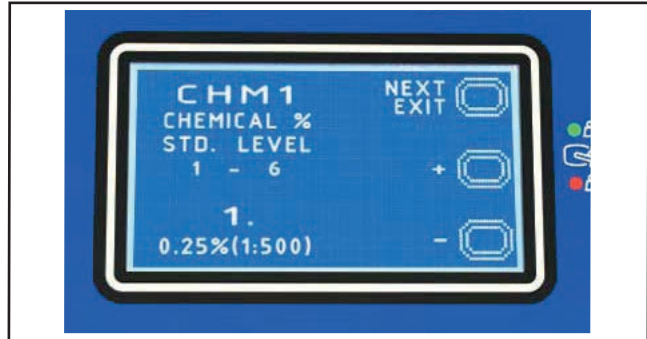

Figure 7
2. Press the One-Touch button  to continue to the machine settings screen (Figure 7).